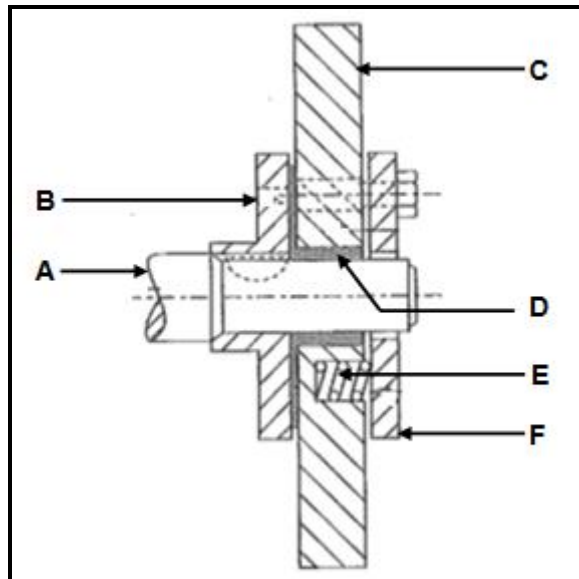

FIGURE 6.2
- 6.2 FIGURE 6.2 below shows a component that is fitted to the front of the crankshaft in an internal combustion engine. Answer the questions that follow.
- 6.2.1 Identify the component shown in FIGURE 6.2. (1)